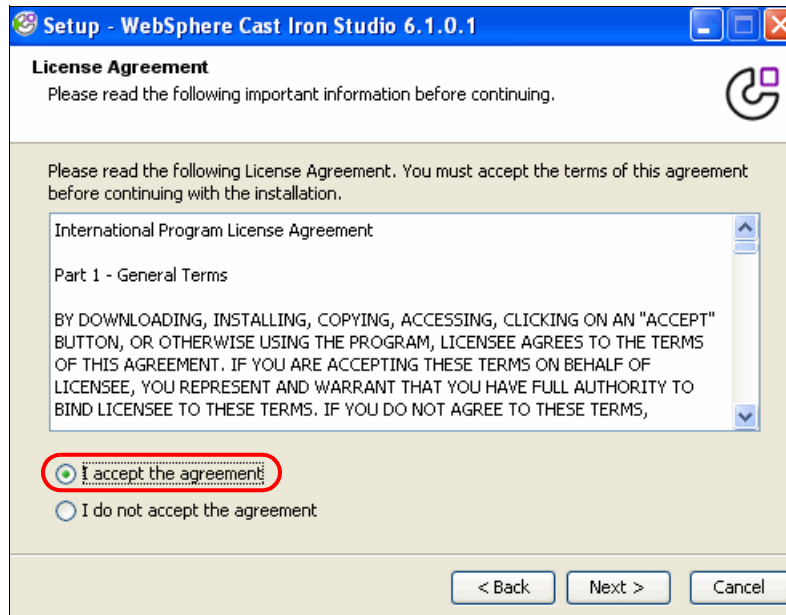

Figure 2-2 Studio license agreement
3. Read and accept the license agreement, shown in Figure 2-2, and then click **Next**.